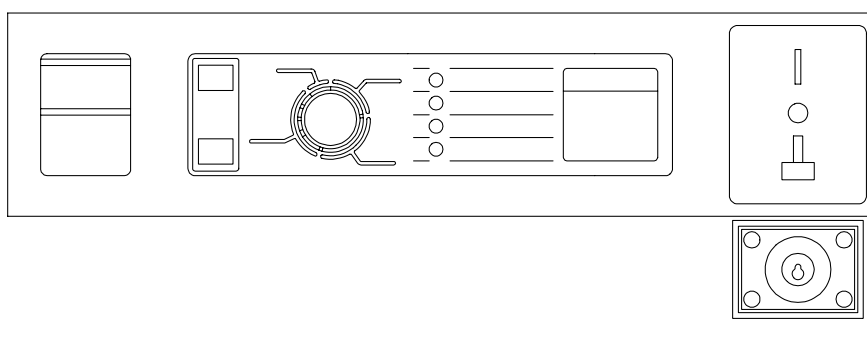

fig. 3
- COIN-OP Version (CR) (fig. 3)
- Variante COIN/MONEDERO (CR). (fig. 3)
- Version COIN/MONNAIEUR (CR). (fig. 3)